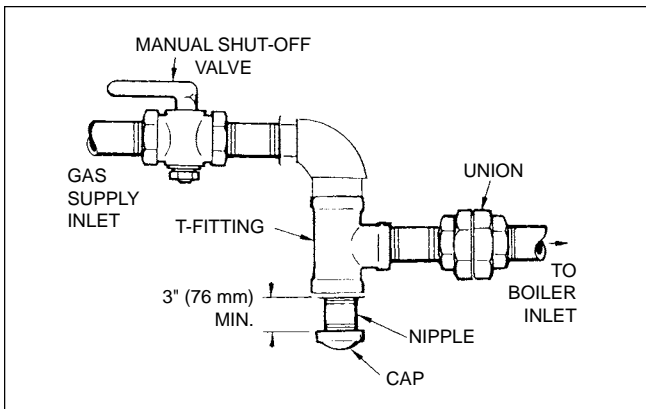

Figure 26. T-Fitting and Sediment Trap.
- Install a sediment trap (drip leg) ahead of the gas controls (see Figure 26). Fit the trap with a threaded cap which can be removed for cleaning.